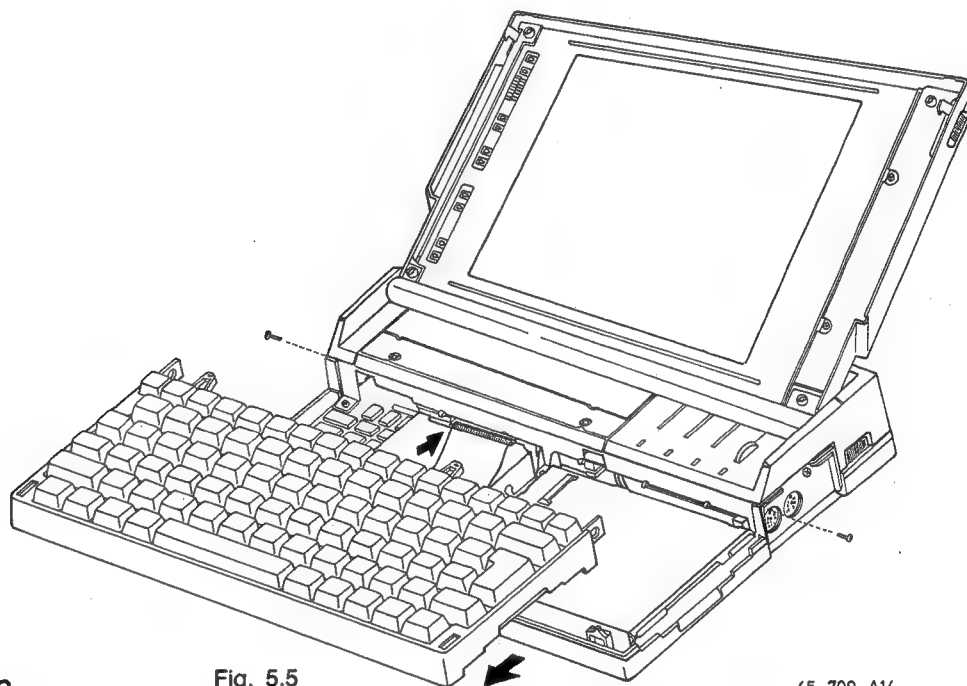

Fig. 5.5
- Slide up the connector fixing the flat cable to the keyboard and remove the keyboard with cable, see Fig. 5-5.